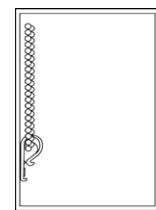

Figure 1
1. Position the tension device at the bottom of the chain loop (Figure 1).